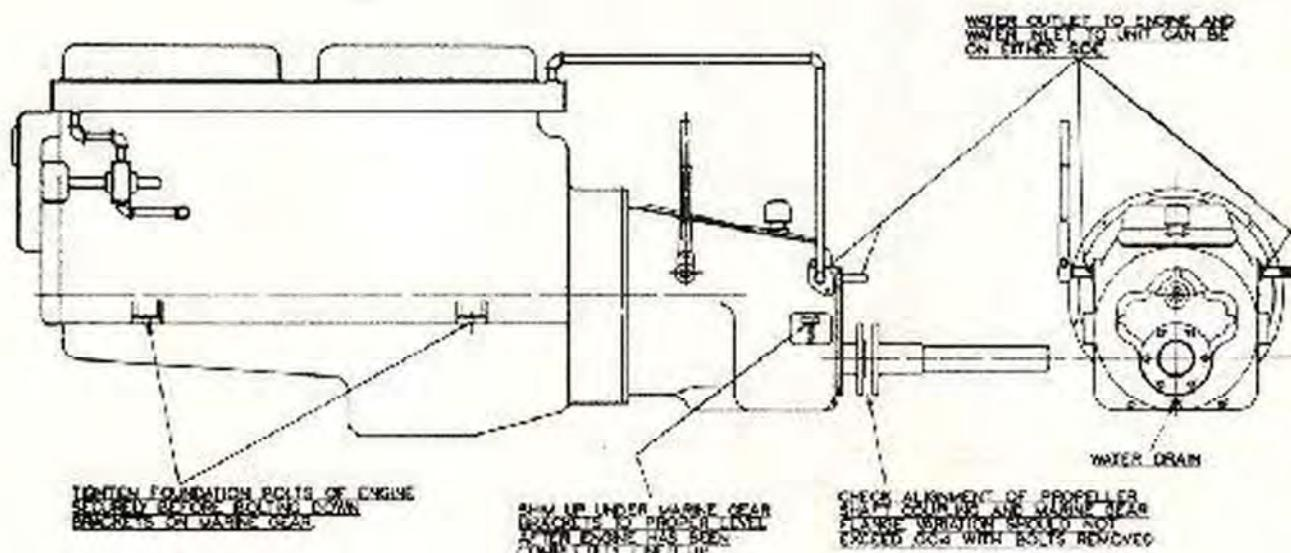

FIGURE 5
**ASSEMBLY IN BOAT** — Wherever possible it is recommended to assemble a new Marine Gear to the engine before it is installed in the boat. After the entire assembly has been set on the foundation provided for the same, it must be properly aligned with the propeller shaft. Care should be taken to make this alignment without pulling the support brackets on the Marine Gear out of their proper position, and for this reason it is recommended to provide clearance for shimming at this point, as indicated in Figure 5. It is advisable to recheck the alignment after the engine foundation bolts have been tightened and then to carefully shim
up under the Marine Gear support brackets. Experience has shown that the hull often changes its shape after the boat has been launched, and it is advisable to recheck and correct the alignment, if necessary, with the boat in the water. This can be accomplished by removing the bolts in the propeller shaft coupling and checking the spacing of the two flanges on the circumference. (Refer to Figure 5.) For satisfactory alignment, the variation should not exceed .004".
OIL TEMPERATURE — The normal oil temperature during continuous full load operation is 180° F. and a maximum temperature of 200° F. is permissible. In order to maintain the oil at moderate temperatures, a means to cool the oil in the form of a cooling water jacket is built integral with the rear end of housing. As indicated in the installation instructions and in Figure 5, piping for the cooling water circuit should be arranged so that the water circulates through the water jacket of the Marine Gear before it reaches the engine. In order to reduce the possibility of condensation forming in the Marine Gear, it is recommended to install a bypass in the cooling water circuit so that the cooling water jacket is not used and the water conducted directly to the engine whenever the operating temperature of the Marine Gear is 90° or less during continuous full load operation in winter time.